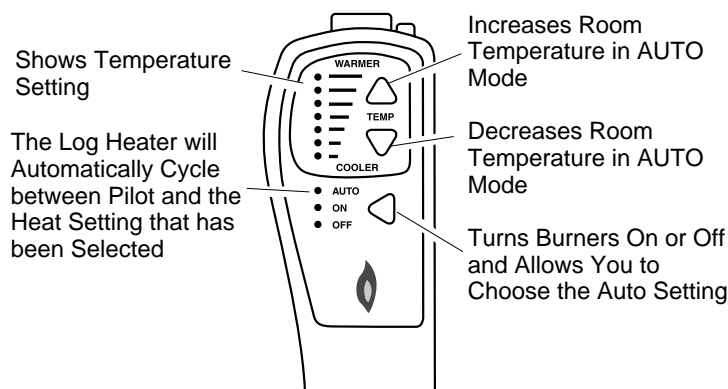

Figure 28 - Thermostat Hand-Held Remote Control Unit Selections (GHRCT Series Only)
- 2b. Press the AUTO/ON/OFF button on the hand-held remote control (see Figure 28). The lights to the left of the button will show AUTO, ON, or OFF.